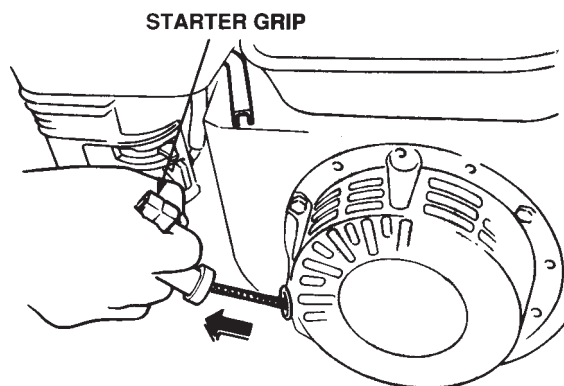

Figure 21. Starter Grip
- Grasp the starter grip (Figure 21) and slowly pull it out. The resistance becomes the hardest at a position corresponding to the compression point. Pull the starter grip briskly and smoothly for starting.